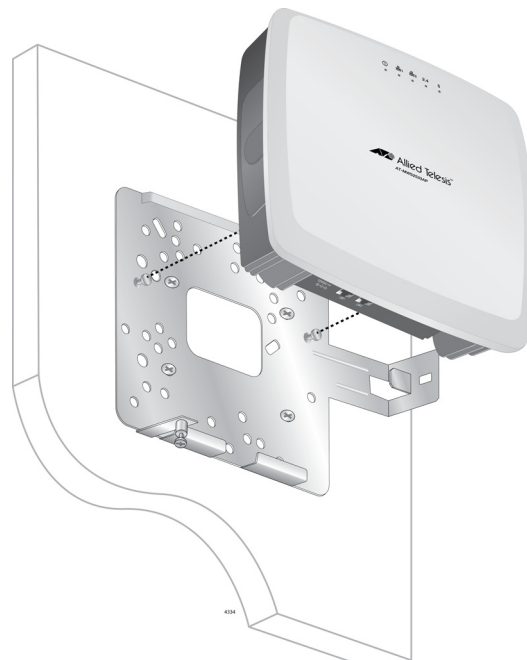

Figure 10. Aligning the Access Point with the Mounting Base Plate
5. Insert the two pins on the mounting base plate into the circles of the keyhole slots, as shown in Figure 10.